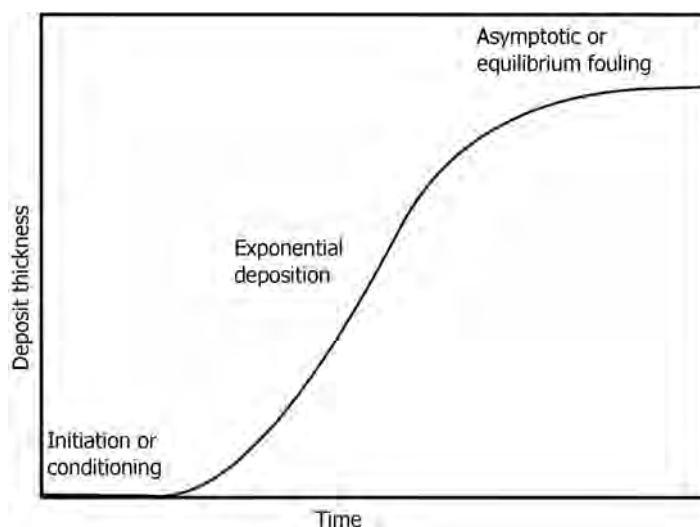

FIGURE 10.35 Idealized fouling curve.
- Further deposition proceeds with rapid increase in thickness in an exponential way as shown by the steep curve (Figure 10.35).